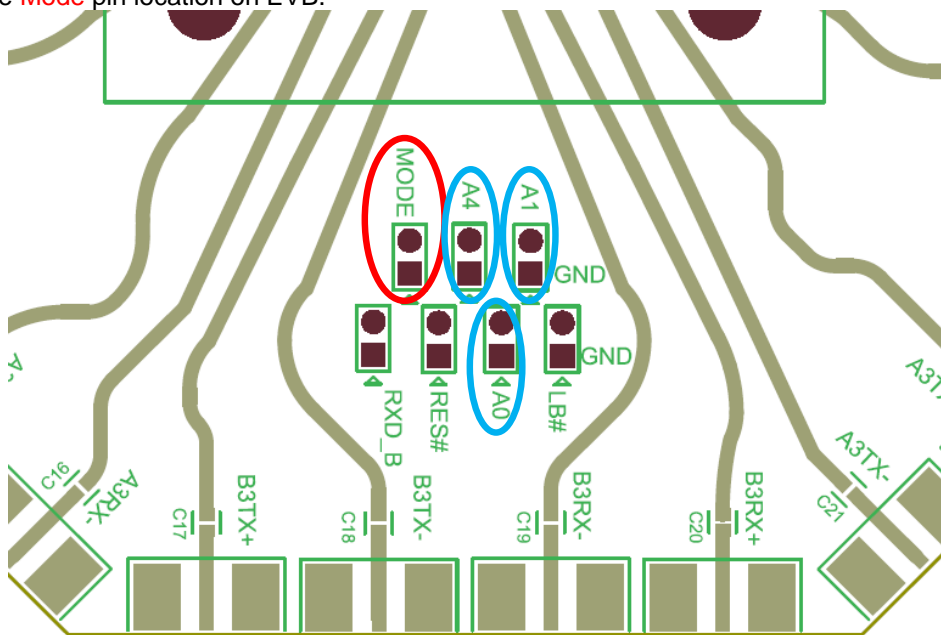

Figure4. MODE pin Header Location
PI2EQX6874ZFE provides I2C configuration control depending on the state of the MODE pin input (red circle in Figure4).
When **MODE** is set **LOW**, reprogramming of the control registers via I2C is allowed. MODE pin has internal 100K pull-up resistor. So it should be pull down by Jumper MODE pin externally. Figure4 shows the **Mode** pin location on EVB.
- The integrated I2C interfaces operate as a slave device, supporting standard rate operation of 100Kbps, with 7-bit addressing mode and LSB indication either a read or write operation as shown below. The address for a specific device is determined by **A0, A1 and A4** pins with internal **PULL-UP** resistors. So up to eight PI2EQX6874 devices can be connected to a single I2C bus. Figure4 shows A4, A1 and A0 pin header location in **Blue** circle.